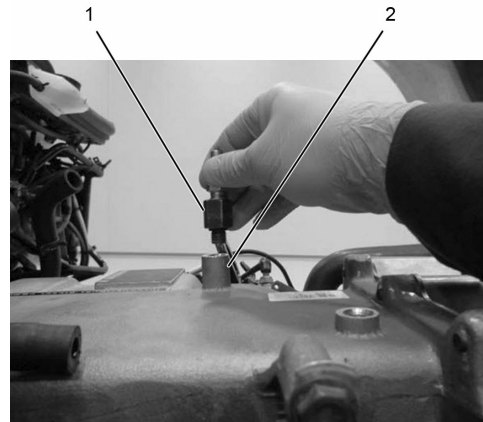

Figure 21
4. Install cooler plug air inlet (Figure 21, Item 1) into EGR high-temperature deaeration port (Figure 21, Item 2).